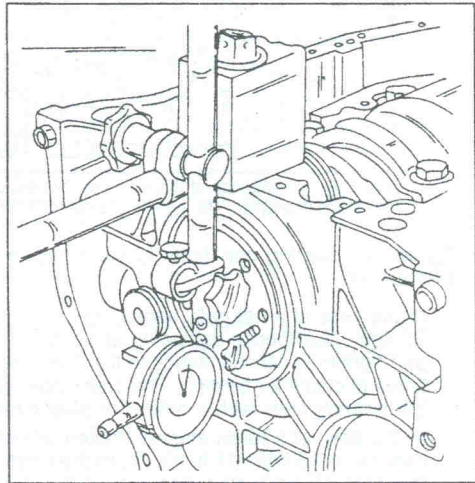

Fig. 1.18. — Checking the crankshaft end float with a dial gauge. The dial gauge needle is resting against the crankshaft flange.
- Next measure the end float of the crankshaft by means of a dial gauge, attached as shown in Fig. 1.18. Place the dial gauge plunger against the crankshaft end face (flywheel mounting flange) and push the crankshaft to and fro by means of a hammer handle, inserted between the crankshaft webs and the crankcase. The value indicated on the dial gauge should be as given in Section 1.4.3.0.